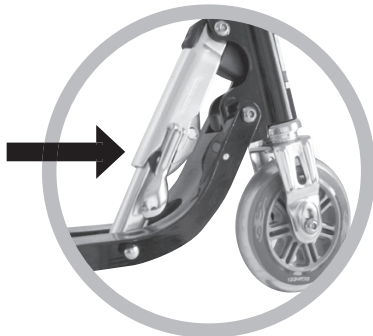

Fig. 3
3. Now press the folding hinge in the direction of the handlebar shaft until it audibly engages. (Fig. 3)